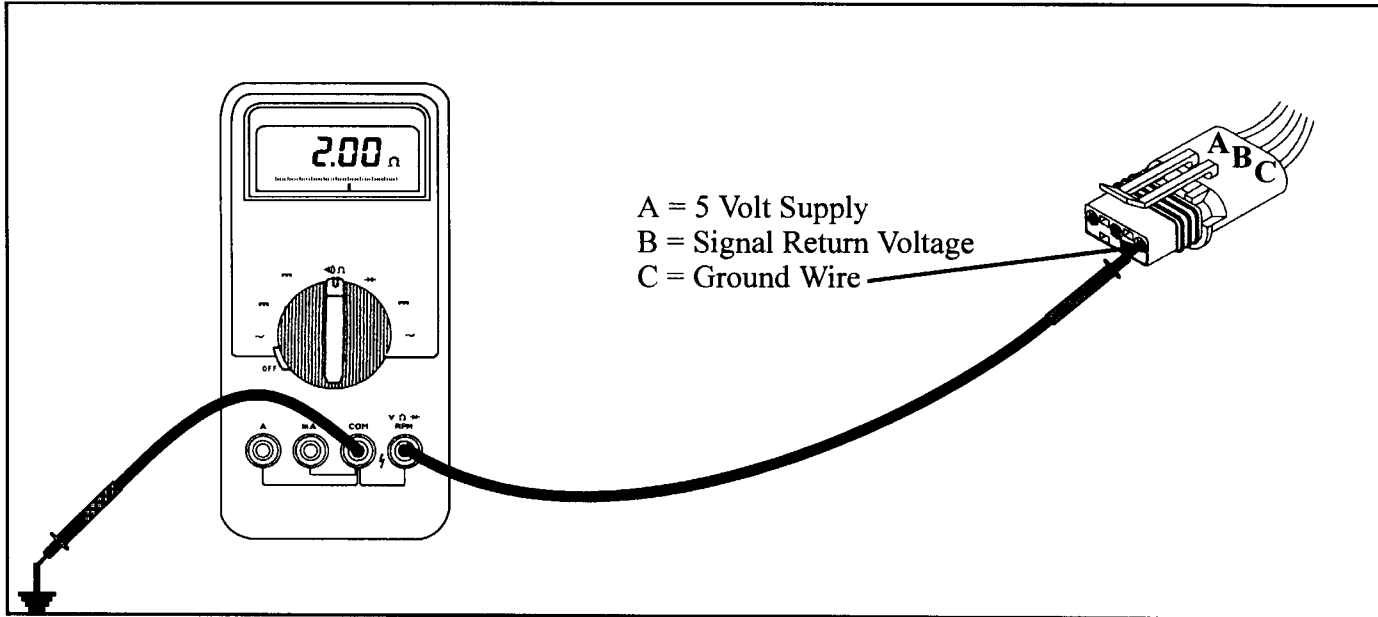
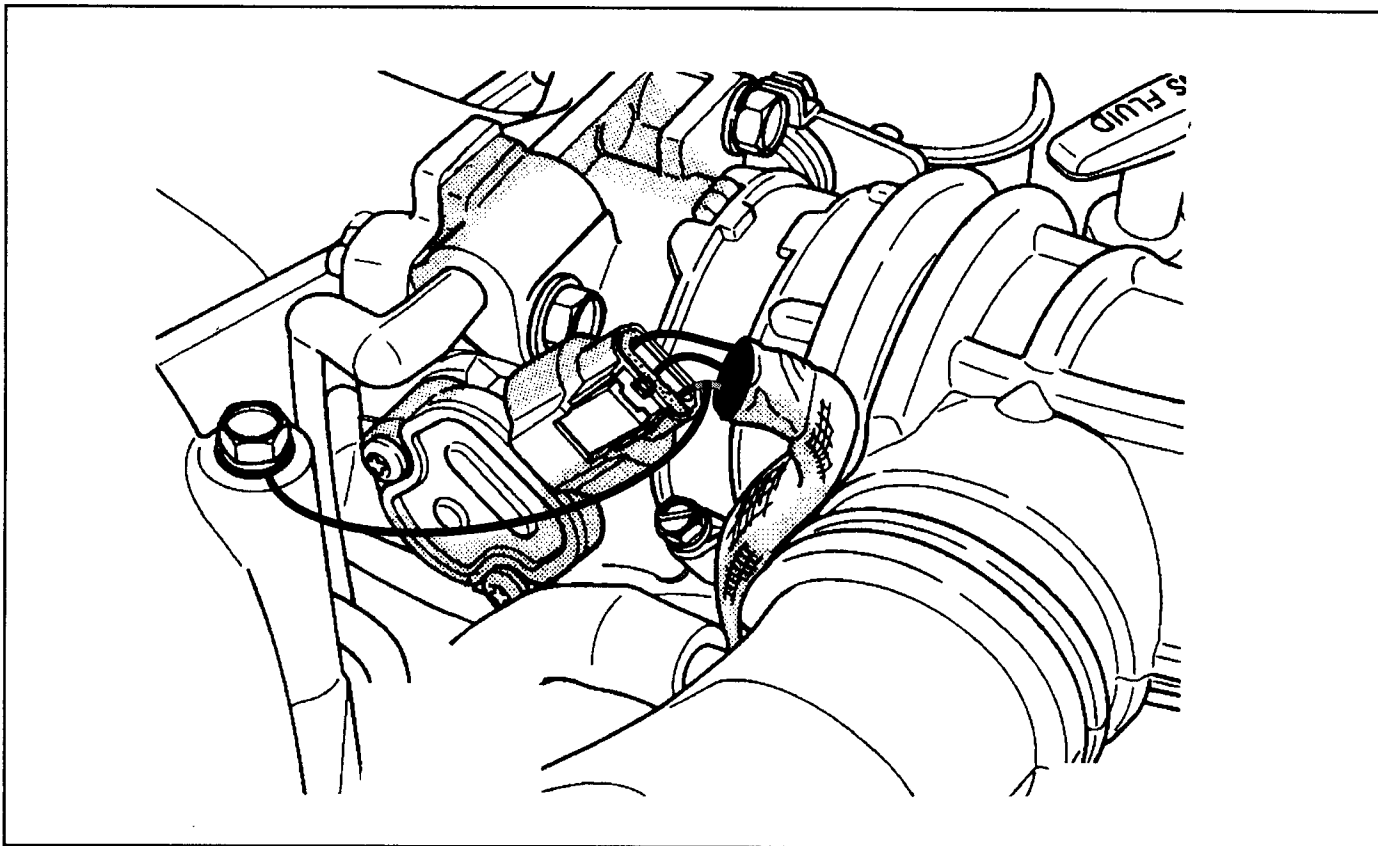

Figure 45
Figure 46
- With a meter set to ohms, place the negative lead to the negative post of the battery and the positive lead to terminal C in the TPS connector (See Figure 45). Approximately 0 to 5 ohms should be seen. If the resistance is greater than 5 ohms or the meter displayed an open circuit, the ground wire will need to be repaired. A quick and simple method would be to splice into the wire with another wire and run it to a good known ground (See Figure 46). If the ground wire is good and the TPS is still malfunctioning, go to the next step.